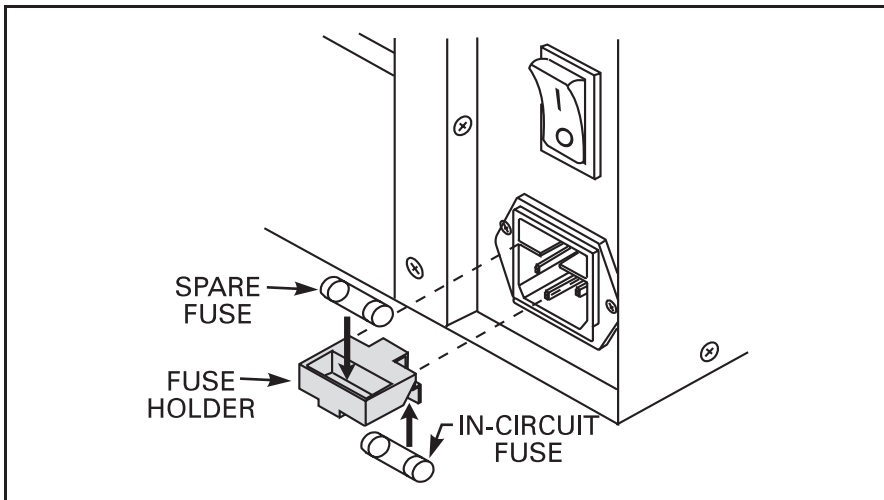

Figure 13. Fuse Replacement—Step 2
3. Remove the faulty fuse and install a new fuse of the correct type. Refer to Figure 13. The fuse that goes into the printer first is the one that is “in-circuit”. If you use the spare fuse, be sure to order a replacement fuse (fuses can be ordered from your Zebra distributor).